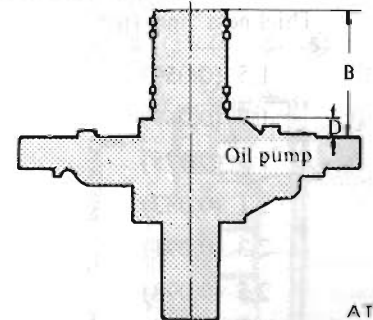

Fig. AT-76 Measuring the distance "B" and "D"
(2) Measure the distance "B" and "D" of oil pump cover as shown in Figure AT-76.